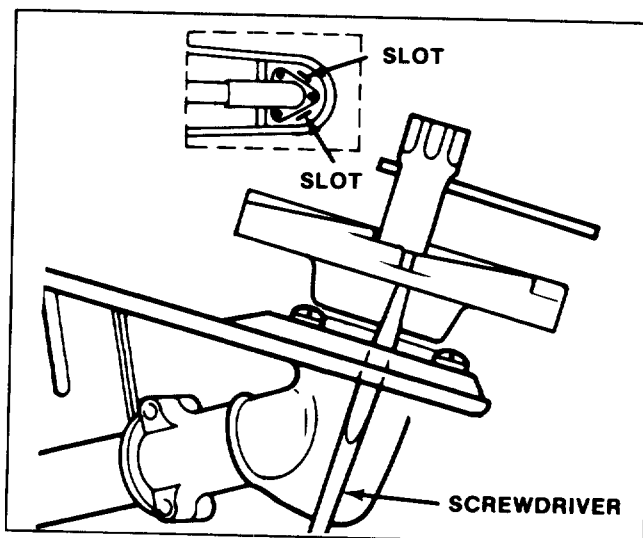

Figure 15
2. Insert a flat bladed screwdriver into the slot in the top of the shield to prevent the cutter head from rotating during spool removal (Fig. 15).